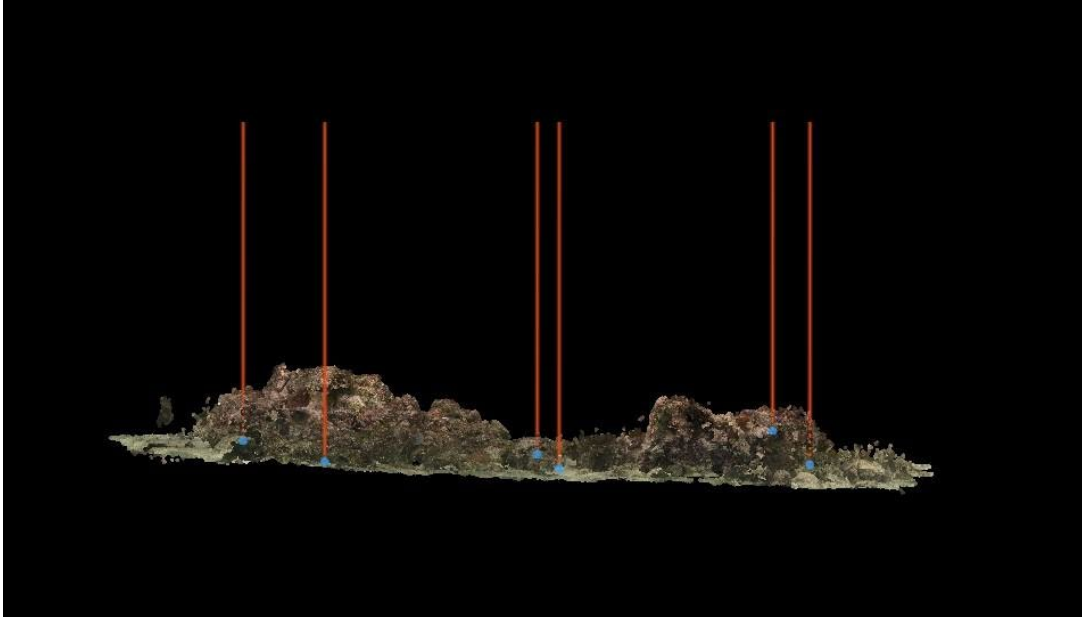

Figure 79. Example of model with depth markers pointing in the correct direction (i.e., “up”).
12. Press the Down arrow key to ensure the depth markers are pointing up toward the sea surface (Figure 79).
14. Further, if the markers are pointing downward (i.e., opposite from what is shown in Figure 79), see *Appendix II.B.* for troubleshooting.